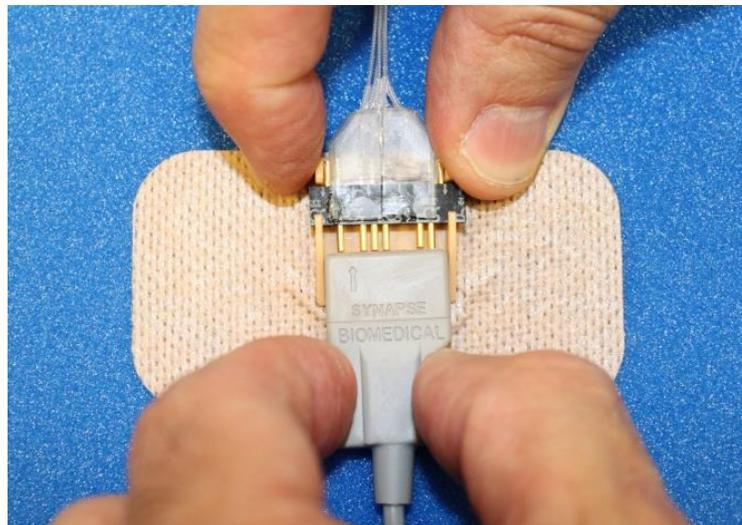

Figure 27
1. Disconnect the patient cable from the electrode connector (Figure 27).